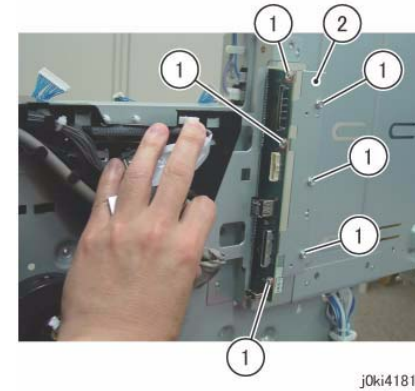

Figure 4 Remove the Bracket
11. Remove the Bracket. (Figure 4)